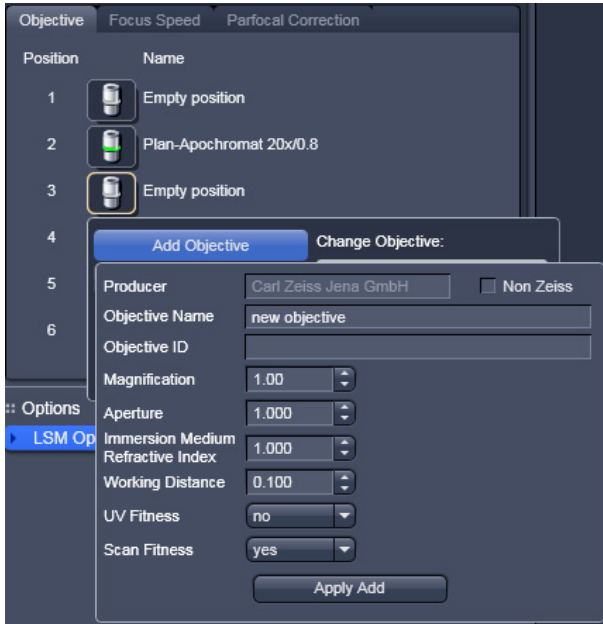

Fig. 164 Editing a new objective
- An expansion (**Create new Objective**) window is opened (Fig. 164).